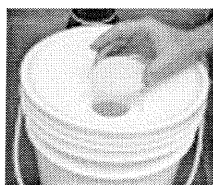

FIGURE 6
1. Place the Rieke cap (70 mm series) on top of the threaded opening and manually thread onto the neck of the U5G cover. (fig. 6)